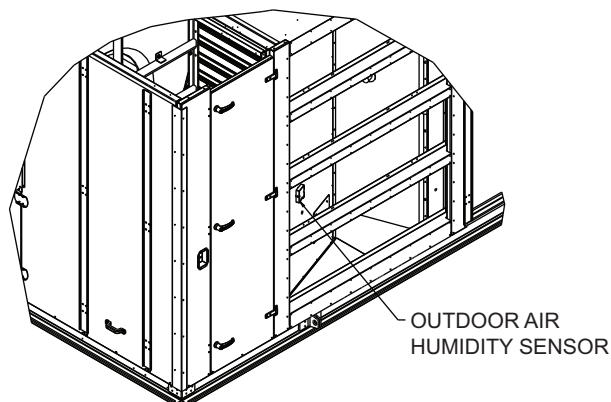

Fig. 8 — Outdoor Air Humidity Sensor Location for 48/50N Series Units
2. Remove the economizer side hood and filters to gain access to the location where the humidity sensor will be mounted. See Fig. 8.
3. Install the humidity sensor using the screws provided. See Fig. 8. Attachment holes are pre-punched.